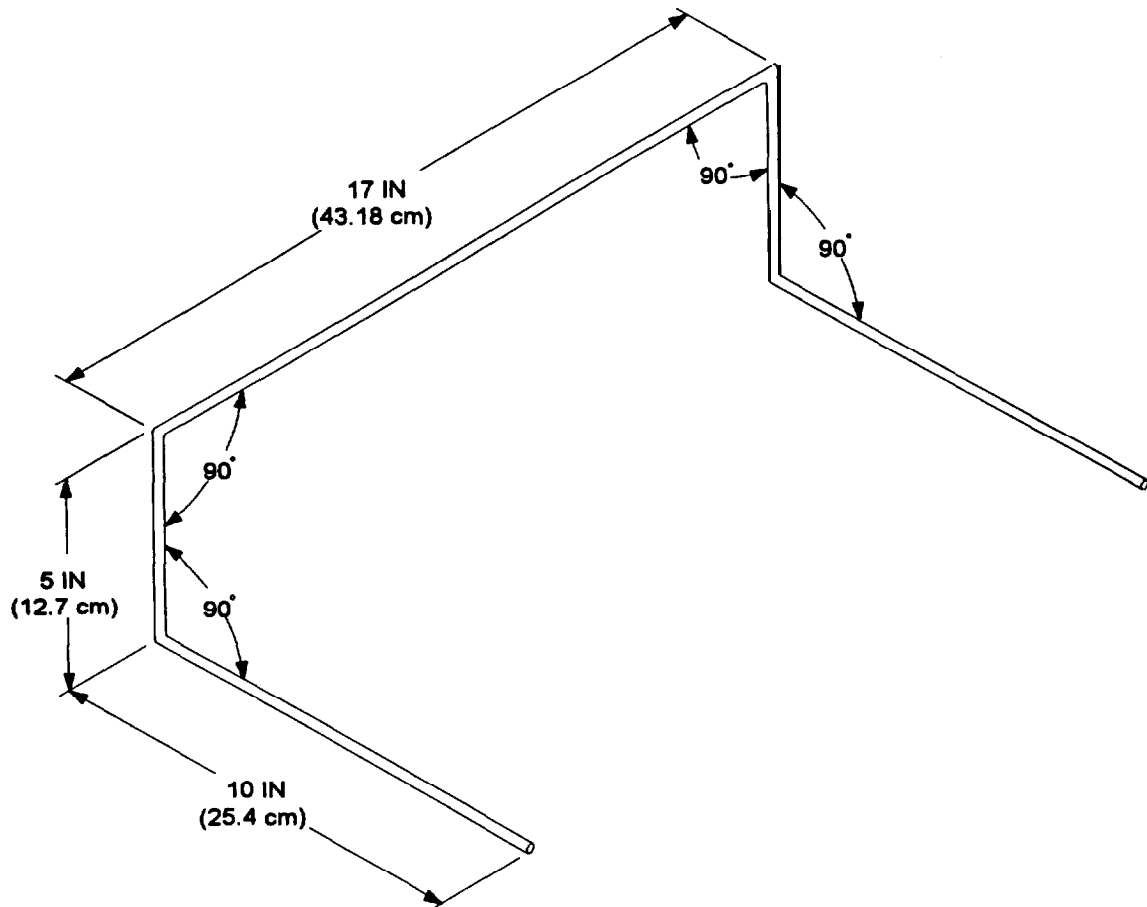

Figure F-2. ITM Test Arm.
1. Fabrication of test arm (reference figure F-2):
- c. Shape wire in accordance with dimensions and angles shown in figure F-2.